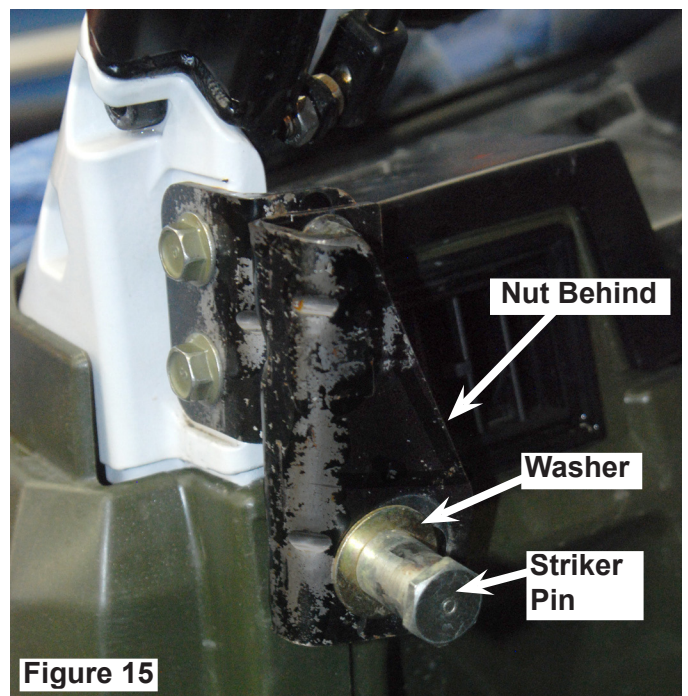

Figure 13
- Tighten the upper door hinge bracket bolts using a 7/16 socket wrench. Torque to 7 ft. lbs. (9.5 Nm). Figure 13.